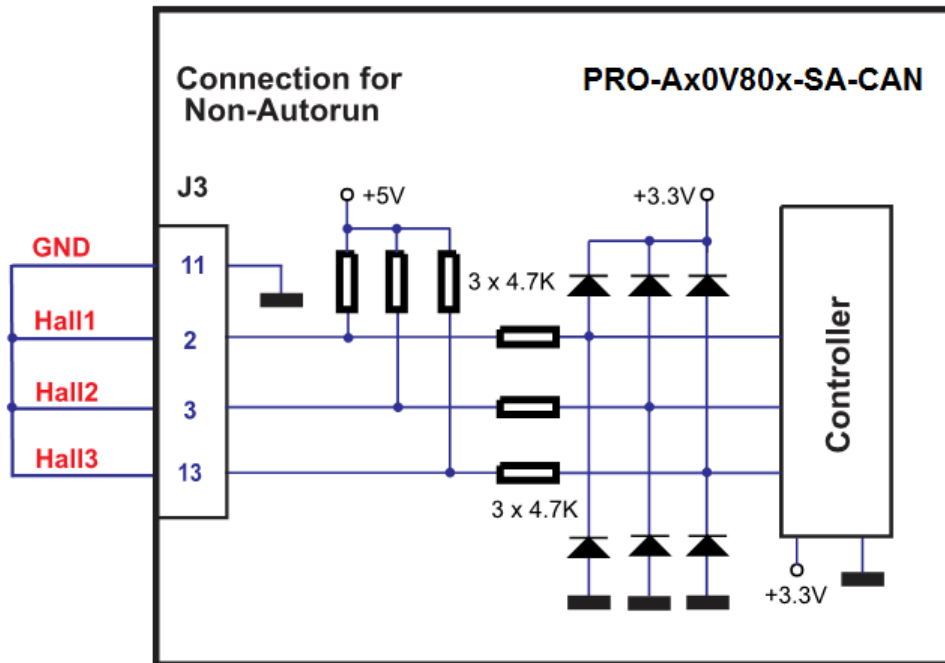

Figure 3.23. Temporary connection during power-on to disable *Autorun* mode
- b) Hardware – by temporary connecting all digital Hall inputs to GND, during the power-on for about 1 second, until the green LED is turned on, as shown in **Figure 3.23**. This option is particularly useful when it is not possible to communicate with the drive.